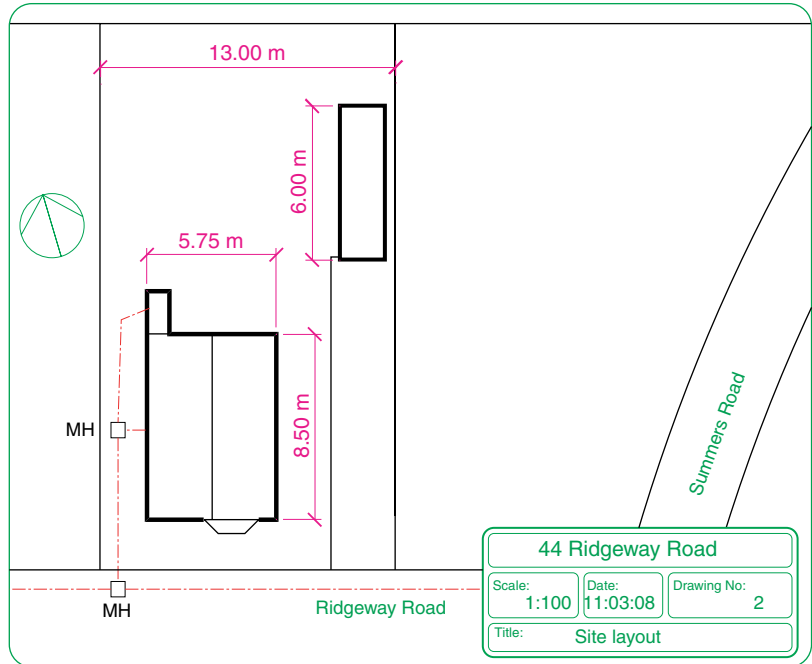

Fig. 12.2 A site layout plan
2. A site layout plan of the original house, drawn to a scale of **1:100** (Fig. 12.2).